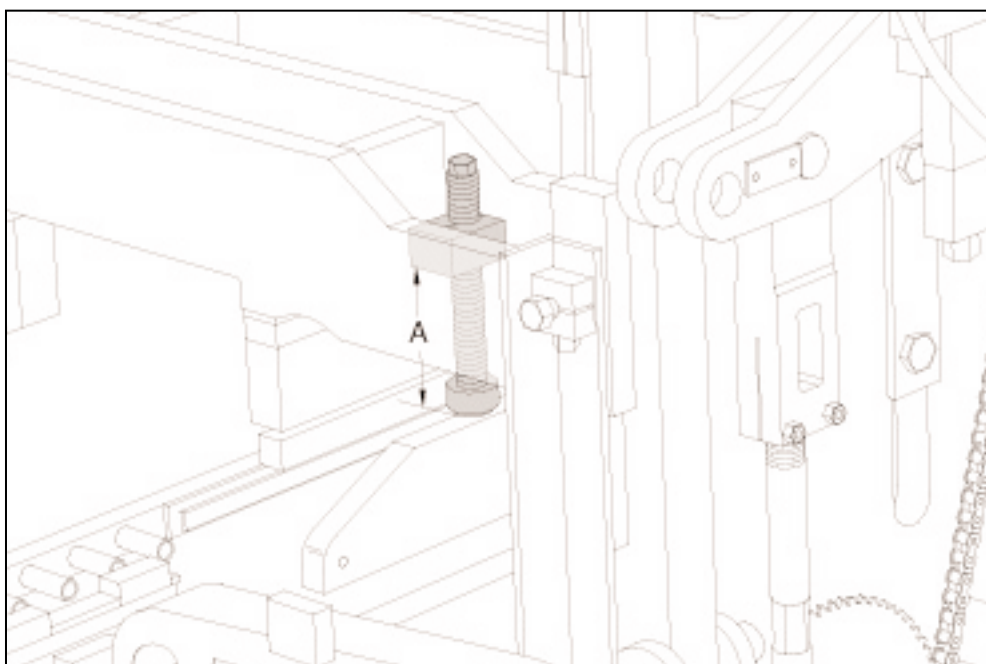

Figure 18.34 SHOCK ABSORBERS ADJUSTMENT.
18.2.10 Install the **470mm [18.5"]** shock absorbers **#395992**. Adjust the shock absorbers to a dimension **335mm [13.187"]** (represented by "A" in figure 18.34) from the bottom of the welded clamp blocks to the bottom of the rubber pads.